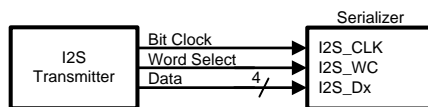
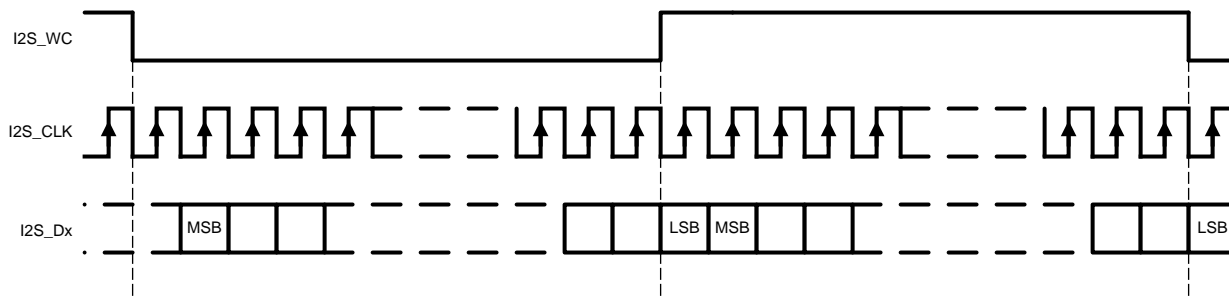

Figure 21. I²S Connection Diagram
Figure 22. I2S Frame Timing Diagram
The DS90UB947-Q1 serializer features six I²S input pins that, when paired with a compatible deserializer, supports 7.1 High-Definition (HD) Surround Sound audio applications. The bit clock (I2S_CLK) supports frequencies between 1MHz and the lesser of CLK/2 or 13 MHz. Four I²S data inputs transport two channels of I²S-formatted digital audio each, with each channel delineated by the word select (I2S_WC) input. Refer to Figure 21 and Figure 22 for I2S connection diagram and timing information.